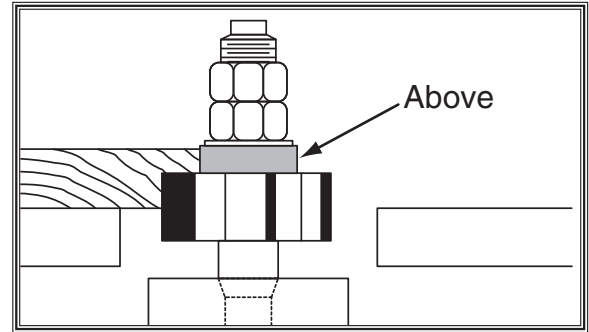

Figure 21. Rub collar mounted above cutter.
- **ABOVE THE CUTTER** as shown in **Figure 21**. This setup is the safest and produces the most consistent results.